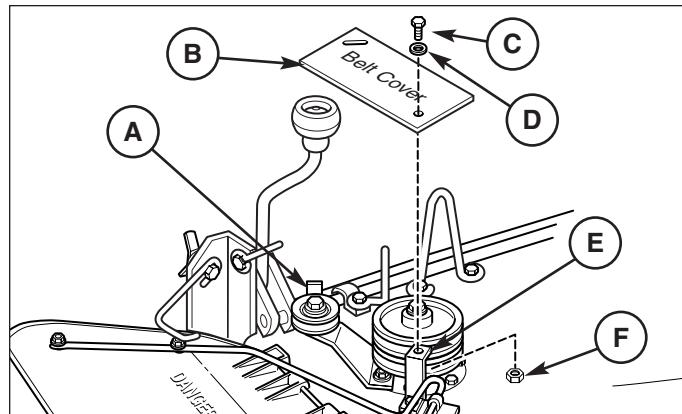

Figure 14. Install Belt Cover Plate
2. Rotate the belt cover until the notch catches the idler assembly belt cover latch (A, Figure 14). Cover latch (A) may need to be rotated for proper alignment.